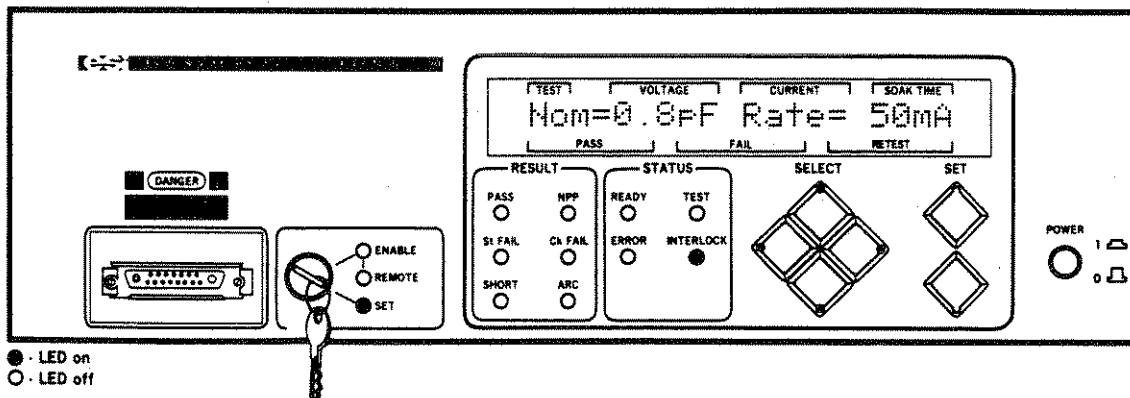

Figure 3-28. Nominal Capacitance and Charge Rate Display
STEP 14. Hold down the INC pushbutton and observe the effect it has on the display. As with the Nominal Capacitance screen, the value increases slowly at first, then faster. To finish setting the Charge Rate, press the RIGHT pushbutton once. The display will return to indicating both the Nominal Capacitance and the Charge Rate. Notice that neither the LED on the INC pushbutton nor on the DEC pushbutton is illuminated. Figure 3-28 is an example of this.